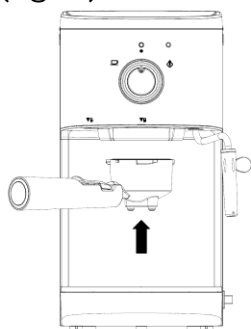

Fig. 7
7. Offer the filter holder to the brewing head and align the handle with the 'unlocked' padlock symbol (▼🔓) on the front face of the appliance (fig. 7).